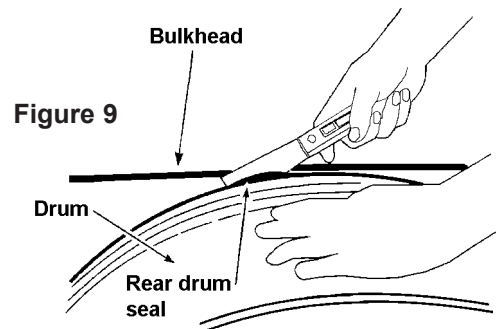

Figure 9
7. Place a small screwdriver or putty knife under the seal and on top of the bulkhead. See Figure 9.